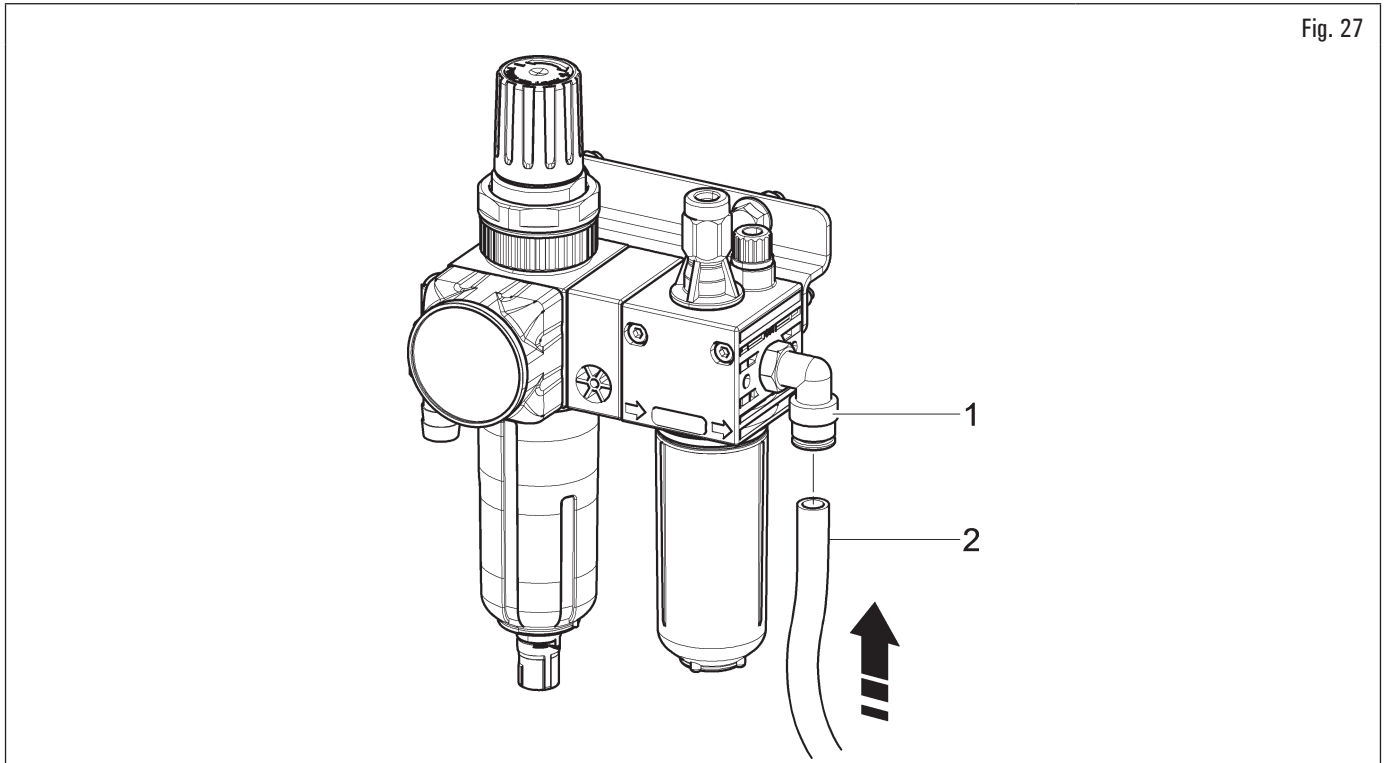

Fig. 27
Connect the mains pneumatic supply through the fitting (Fig. 27 ref. 1) placed on equipment filter assembly. The pressurised hose (Fig. 27 ref. 2) coming from the mains must have a minimum inner diameter of 10 mm (3/8") and a minimum outer diameter of 19 mm (3/4") to have sufficient flow rate.